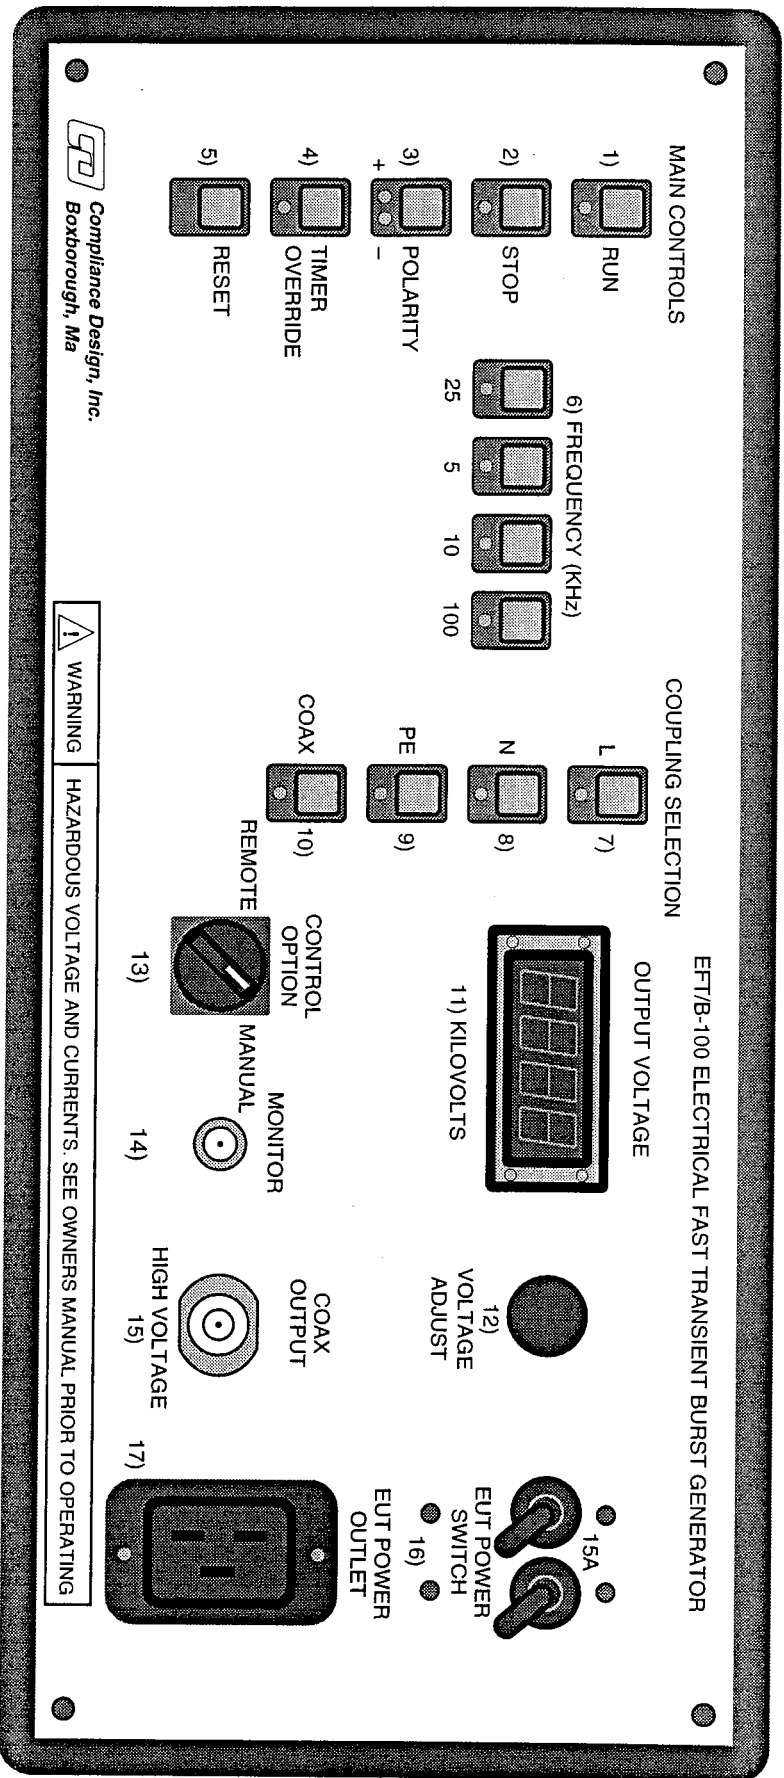

Figure 1
Figure 1 shows the front panel of the EFT/B-100. The description below is keyed to the numbers on the figure, and describes manual operation using the front panel controls. If you have purchased the remote programming option, be sure that the **CONTROL OPTION** switch is set to **MANUAL** for operation from the front panel. Also, see the manual supplied with the remote option.
6. The four controls in this group, highlighted on Figure 1 as number 6, select the output frequency and duty cycle of the transient burst. Depressing a control in this group selects one of 2.5, 5, 10, or 100 kHz as the pulse repetition rate within a pulse burst. LED indicators indicate the selected frequency. The burst width is 15 ms at frequencies of 2.5 and 5 kHz. At 10 and 100 kHz, the burst width is set to 1 ms. In all cases, the burst repeat period is 300 ms. These parameters are automatically adjusted as frequency is changed to match the requirements of IEC 801-4 and IEC 1000-4-4.